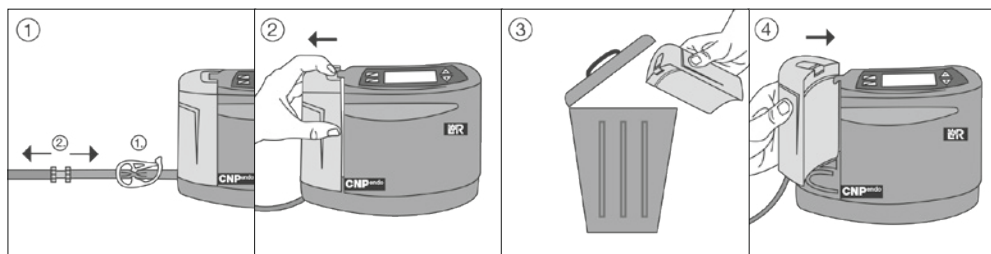

Fig. 4 Replacing the chamber
2. Close the exudate chamber tube with a tube clamp (Fig. 4[1-1]).
4. Detach the exudate chamber tube from the drainage tube (Fig. 4[1-2]).
5. Press the lock on the top of the disposable exudate chamber, keep it depressed and remove the disposable exudate chamber from the therapy unit horizontally (Fig. 4[2]).
6. Dispose of the disposable exudate chamber and the integrated exudate chamber tube in accordance with the applicable regulations (Fig. 4[3], see Section 7.3).
7. Attach a new disposable exudate chamber to the therapy unit. Ensure that the disposable exudate chamber is securely attached to the therapy unit (Fig. 4[4]).